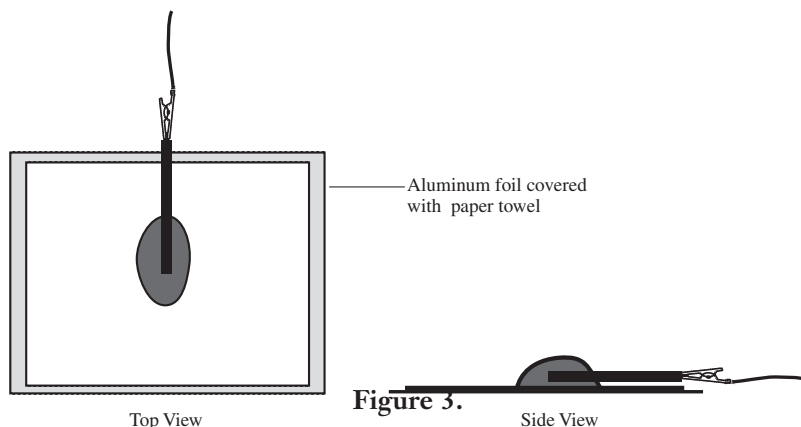

Figure 3.
6. Place the graphite rod in the center of the wet paper towel. See Figure 3.
8. Using a scoop or spatula, carefully cover the graphite rod in the center of the paper towel with the activated charcoal (see Figure 3).